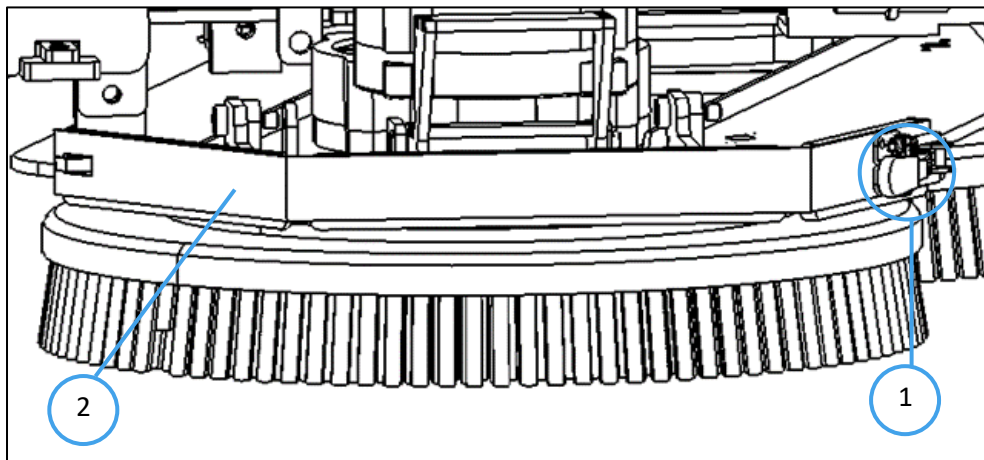

Fig. 1
1. Install rubber blade by opening the latch (Fig 1 highlight).
2. Unhook the metal blade (Fig 1 - 2).